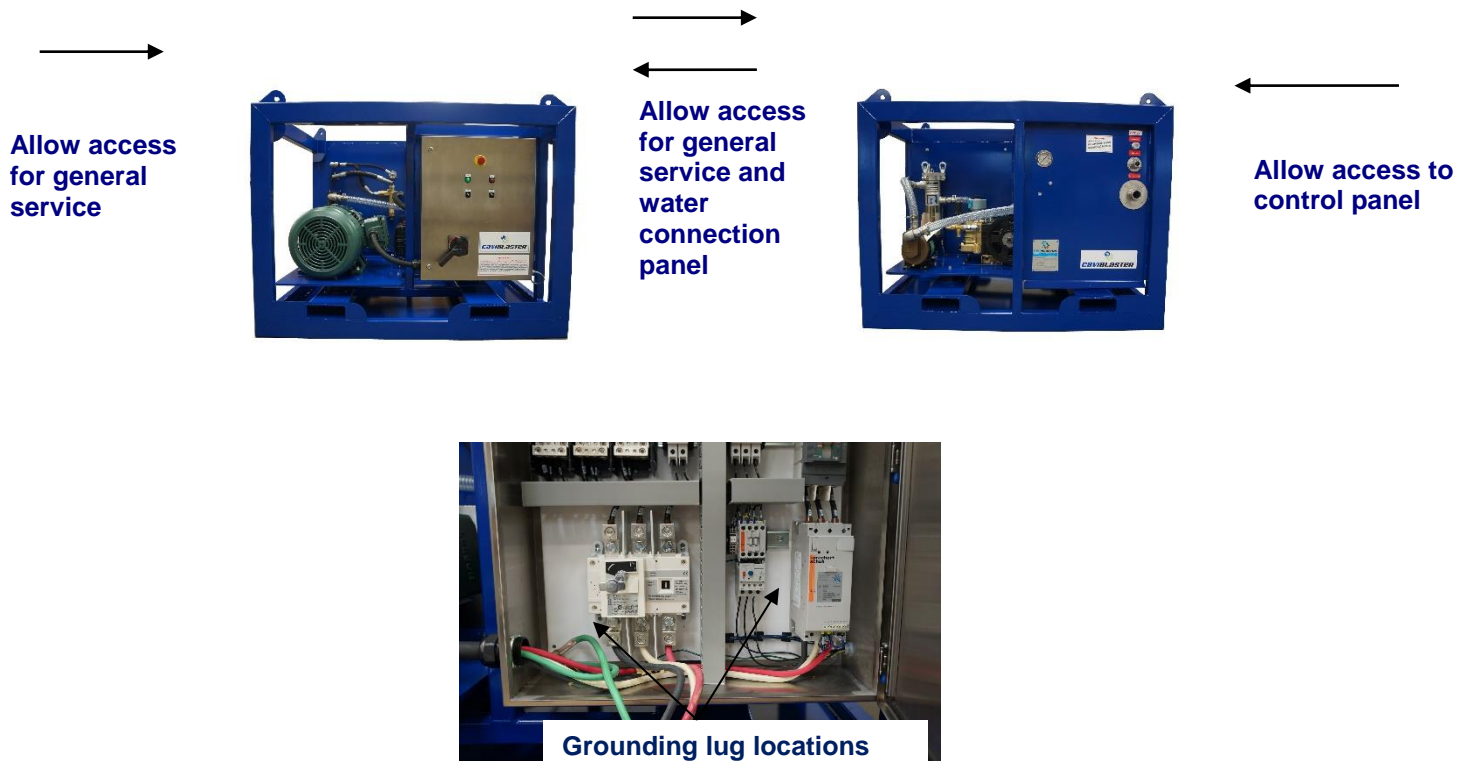

Figure 4.2 – Installation Guidelines
| Figure 4.2 – Installation Guidelines .....                 | 14 |
**\* Enclosed installations will require provisions for adequate motor cooling air flow. See Figure 4.2 below.**